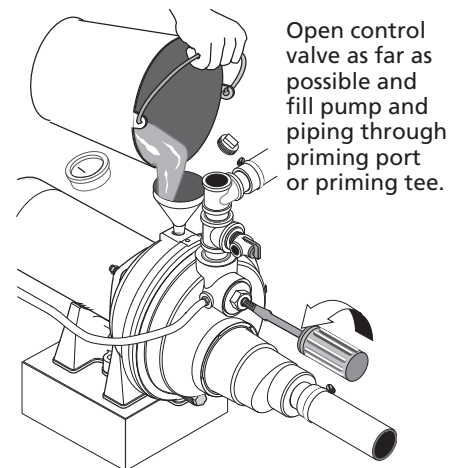

Figure 18 – Open Control Valve
1. Open the control valve as far as possible (See Figure 18). Then remove the priming plug from the pump and fill the pump, fill all piping between the pump and the well, and make sure that all piping in the well is full. If you have also installed a priming tee in the suction piping, remove the plug from the tee and fill the suction piping.